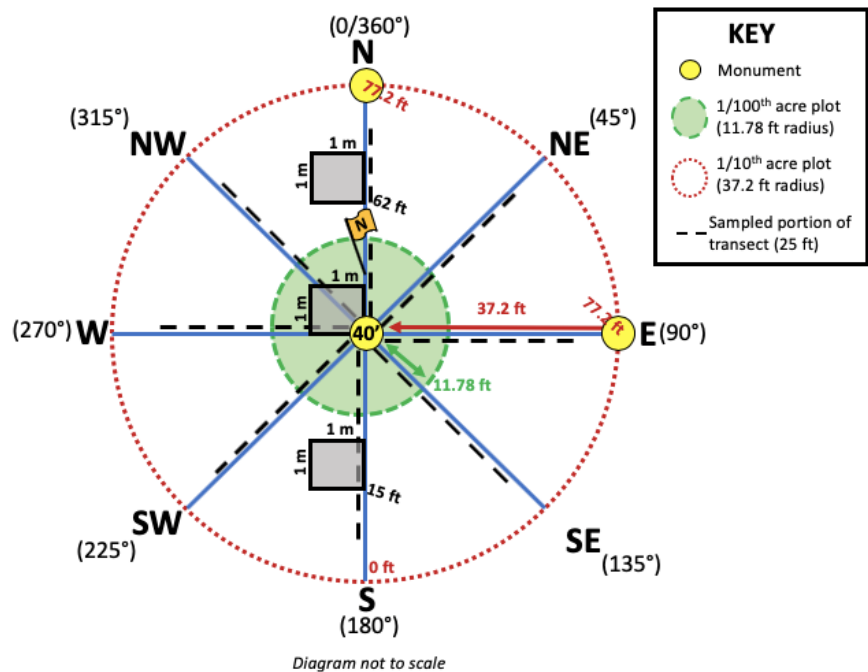

Figure 1: Mothership plot layout
Record forest floor substrate present at each of 25 points per transect (Figure 1). Burn evidence is tallied when it occurs to determine the amount of the area impacted by fire.
2. **Quadrat Photoload:** 1m² sampling frames located at 15-18ft, 40-43ft, and 62-65ft along the north-south transect (Figure 1) (Recorded in Kobo)